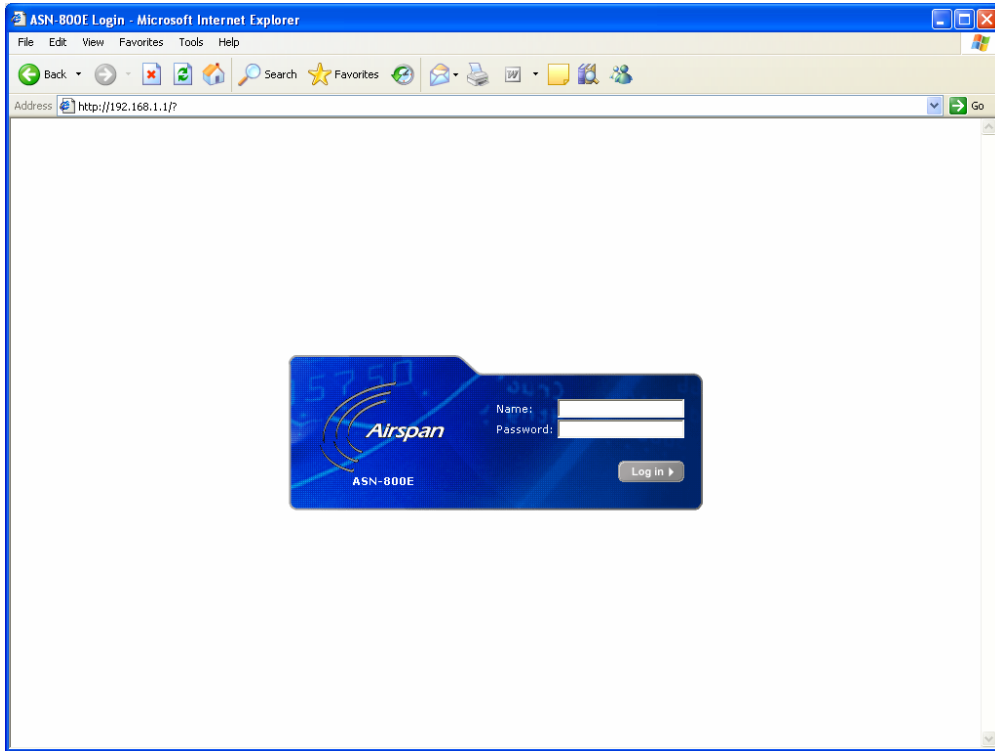

Figure 1 The login screen of ASN-700/800 products
2. Press **ENTER**. This will bring you to the login screen shown in Figure 1.